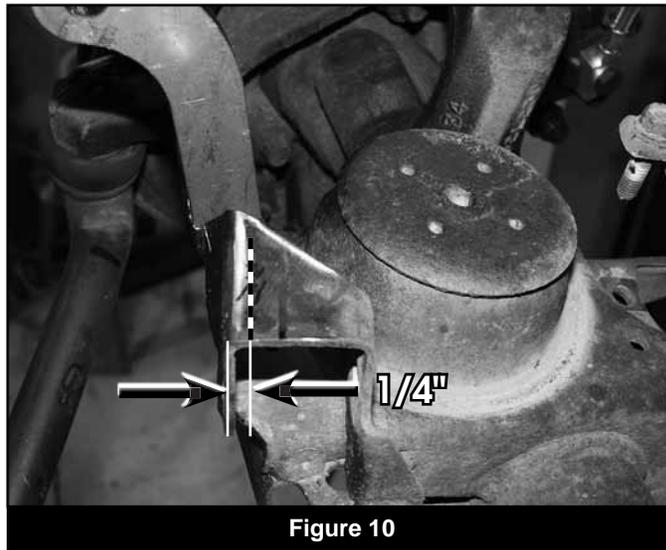

Figure 10
34. Locate the top of the original stabilizer mount on the passenger's side of the axle. Remove any rust, oil, etc. from the top of the stabilizer mount to promote good welds. Make a mark a 1/4" from the front edge on the top of the bracket (Fig 10). Make a line along the top of the bracket, parallel to the front face at the 1/4" marked distance. This will be a reference line for installing the new stabilizer mount/support gusset.